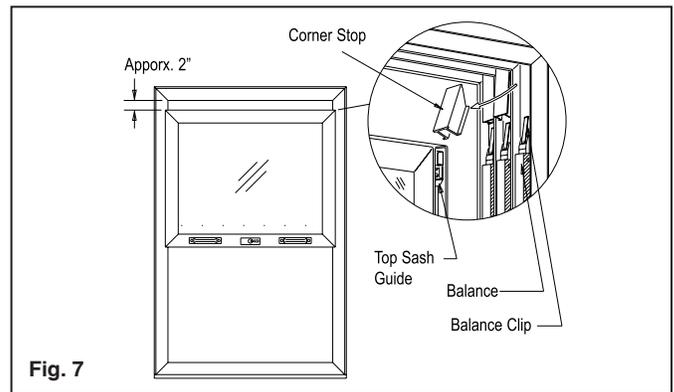

Fig. 7
A. Sash panels will be installed from the interior. Corner stops, if installed, will have to be removed. The first panel to go in will be the exterior glass unit. See Fig. 6. for reference on sash arrangement. Lift the Sash up to the head of the frame. Note, located at the top of both sides of the sash are plastic top sash guides. See Fig. 7. These guides will rest on top of the balance mechanisms in both frame jambs. Allow approximately a 2" gap between the top of the sash and the frame head.